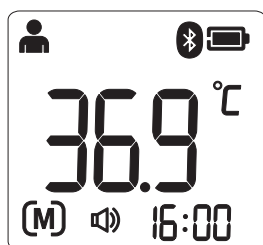

Figure 12
- The thermometer will automatically memorize the last 30 temperature readings. Each memory also records the measurement mode icon. Each time the **Power Button** is pressed, the screen displays past readings that correspond with a number 1-30. The number 1 reflects the most recent reading, while the number 30 reveals the oldest reading stored in memory. (See Figure 12)